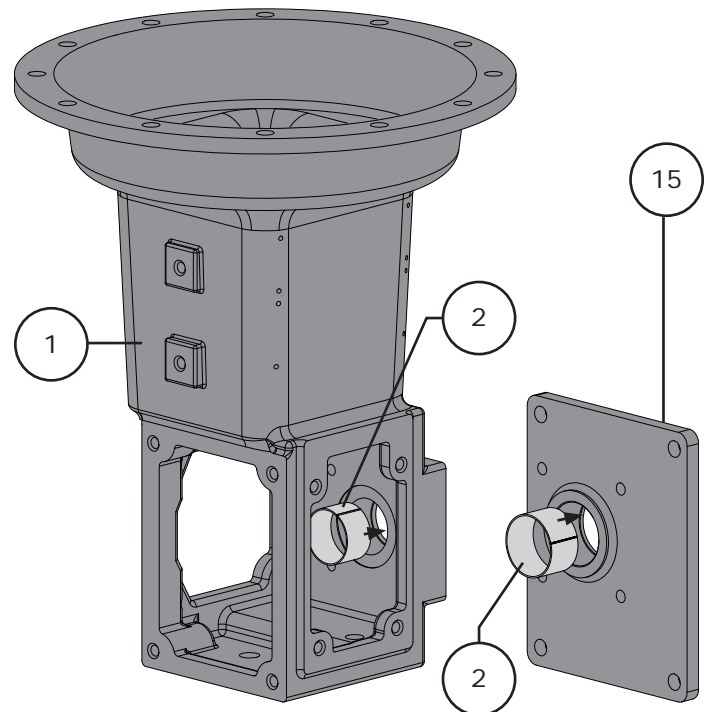

Figure 17 Bearing Tape Installation
- 1 If the bearing tape (Key 2) was removed from the housing (Key 1) and/or the housing cover (Key 15), insert new bearing tape. Refer to Figure 17.